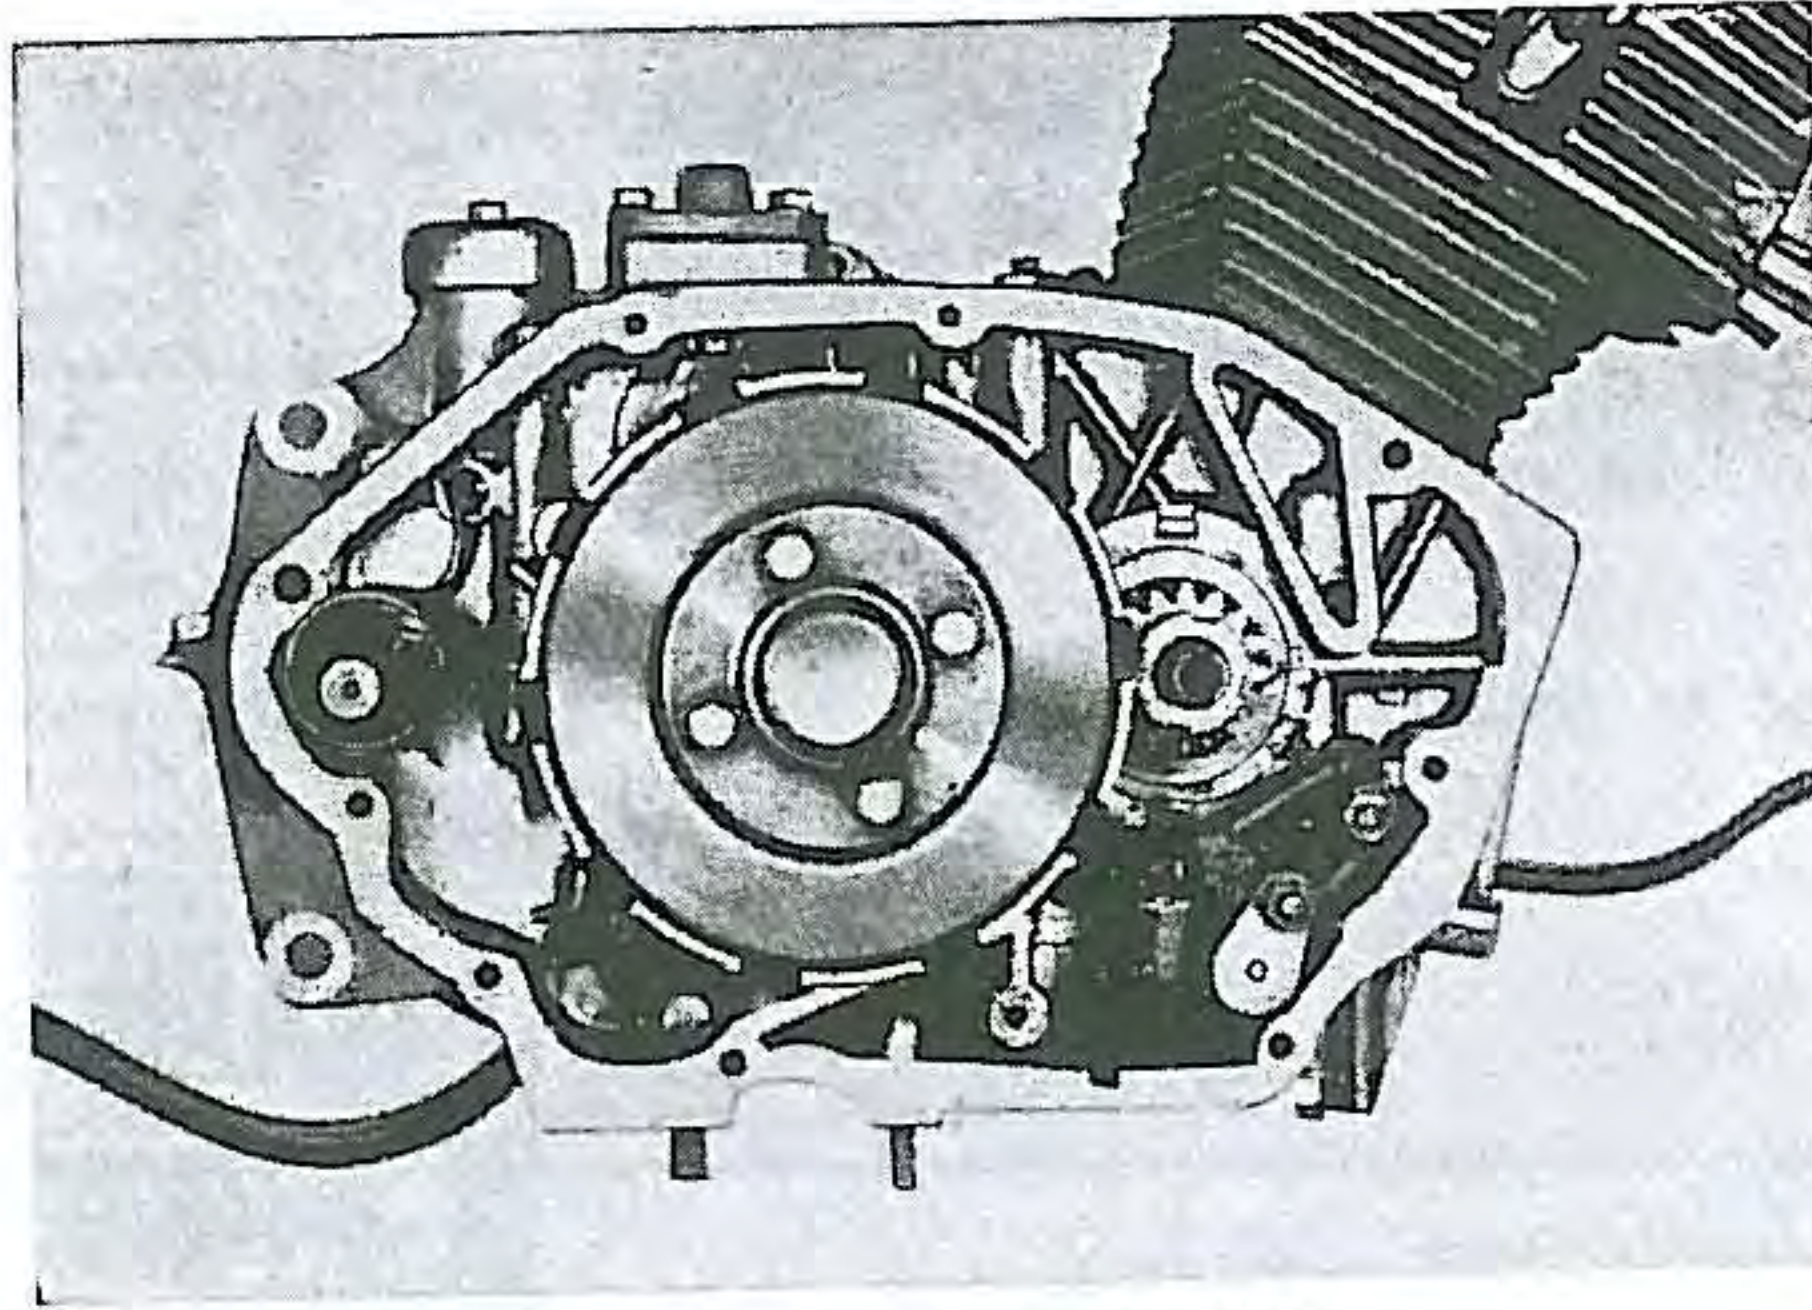

Fig. 75. Clutch retaining bolts
- (1) Remove the R. crank case cover, unscrewing the 11 cross screws.
- (2) Remove the oil filter cage which is inserted over the end of the crank shaft.
- (3) Remove the 4 bolts (6 mm) retaining the clutch plate (Fig. 75). Then take apart the clutch plate and clutch springs.